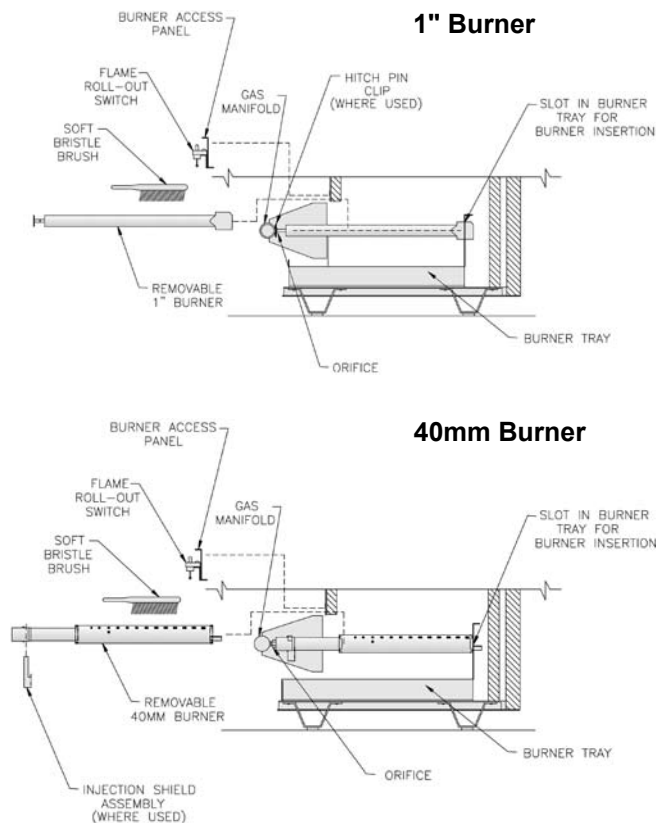

Figure 30: Burner Cleaning and Installation
4. 40mm burners only. Remove injection shield assembly, where used. See Figure 30.
9. Brush top of burners with a soft bristle brush, see Figure 30. Vacuum burners. Check orifices to see that drilled passageways are free of lint or dirt.
Check burners to see that they are located properly in slot at rear of burner tray, see Figure 30. Reinstall injection shield assembly (40mm burners only, where used) and burner access panel. Reconnect flame roll-out switch wires, pilot gas supply, thermocouple lead or pilot lead.